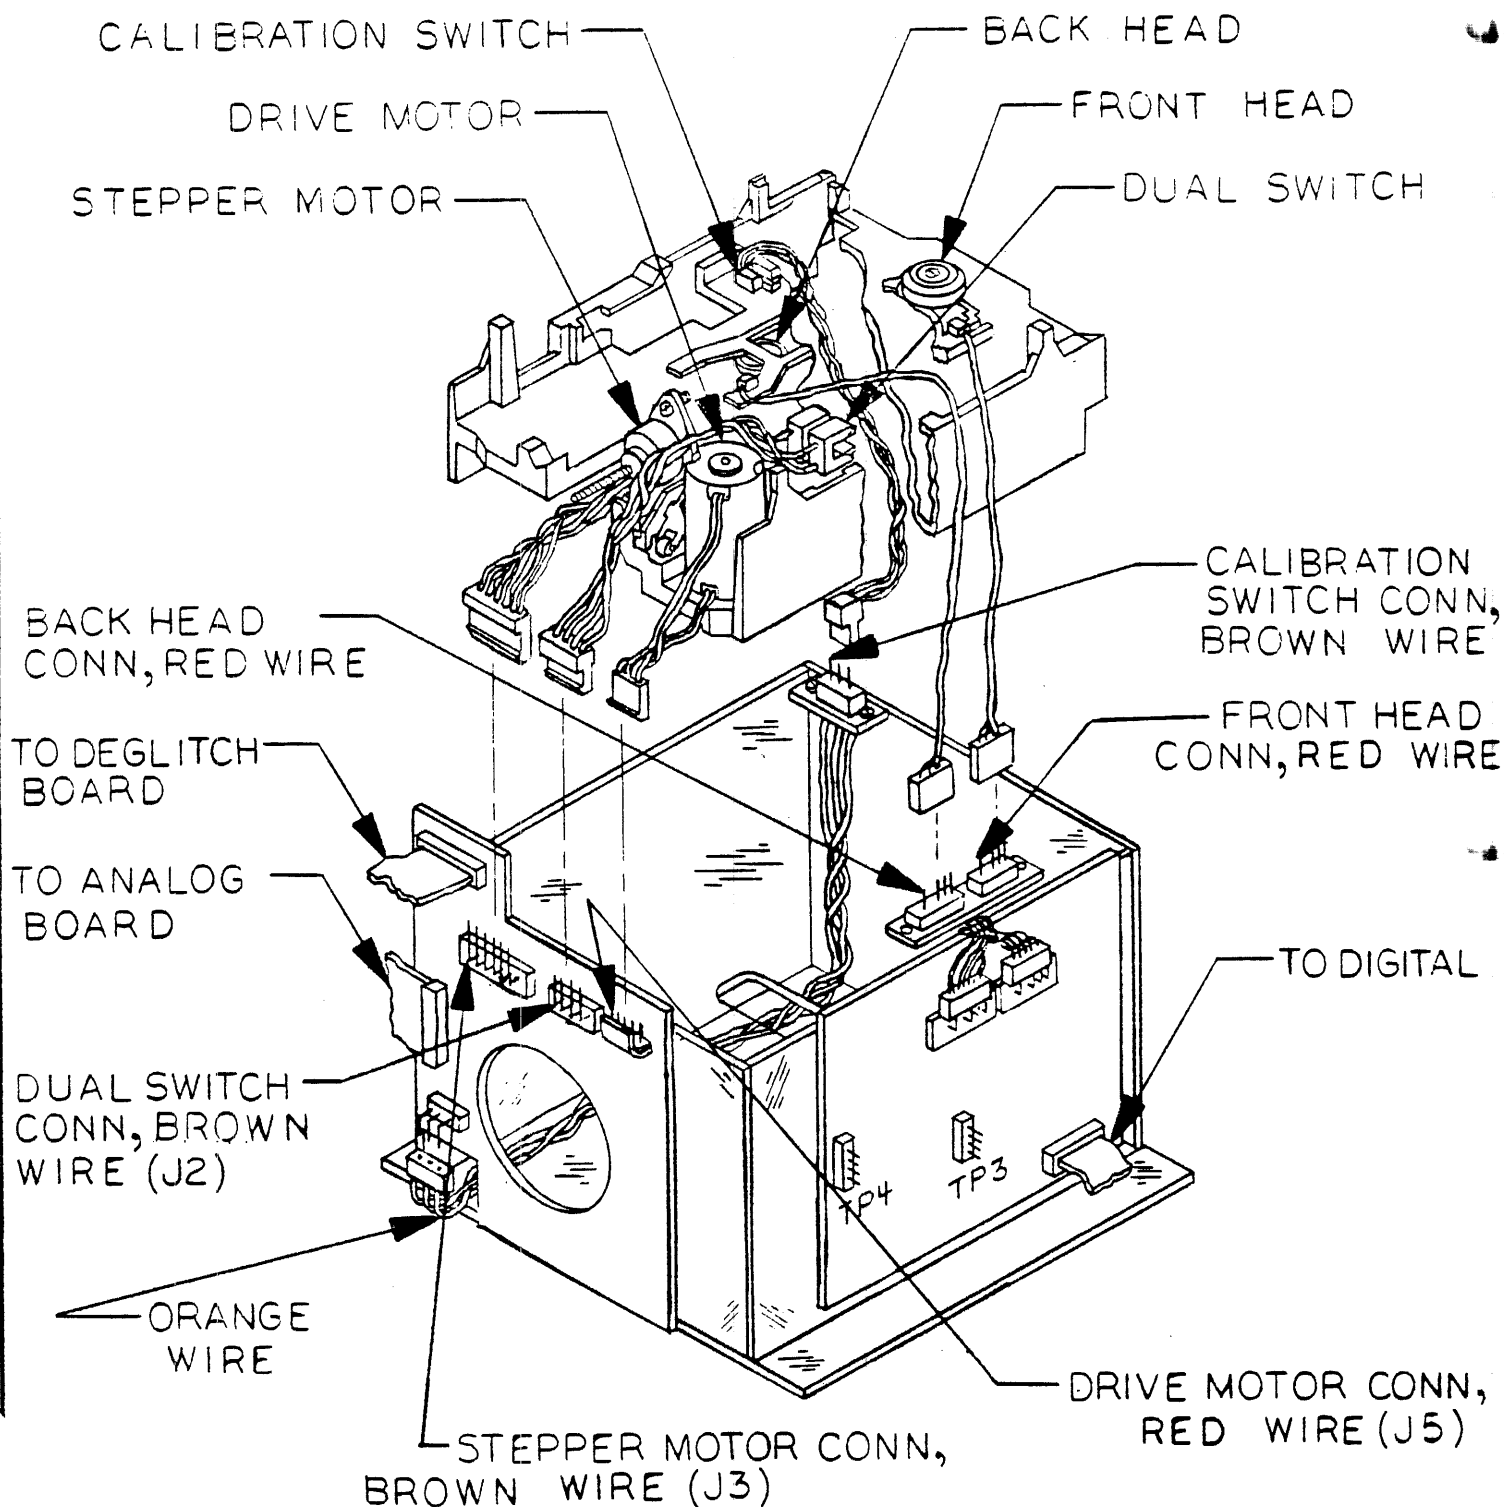

FIGURE 2. THE CONNECTION OF THE TWIGGY ASSEMBLY TO THE GLASS STAND.
- 7.1.3 Place the Twiggy assembly onto the glass stand. Connect the wires from the stepper motor, D.C. motor, heads, calibration switch and dual-switch as shown in Fig. 2. Be sure to connect the various colored wires exactly as shown in Fig. 2.